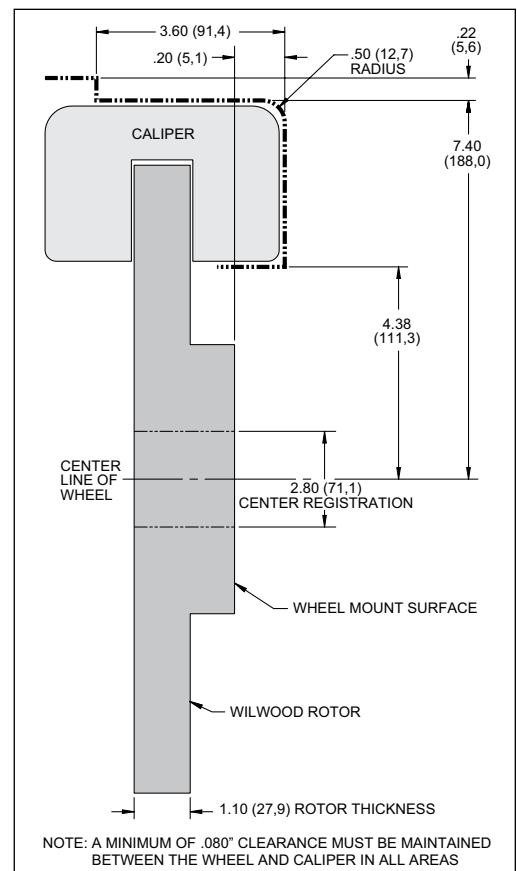

Figure 4. Wheel Clearance Diagram
- Review the wheel clearance diagram (Figure 4, page 3) to verify that there is adequate clearance with the wheels you will be using with the installation.
Verify your wheel clearance using Figure 4.